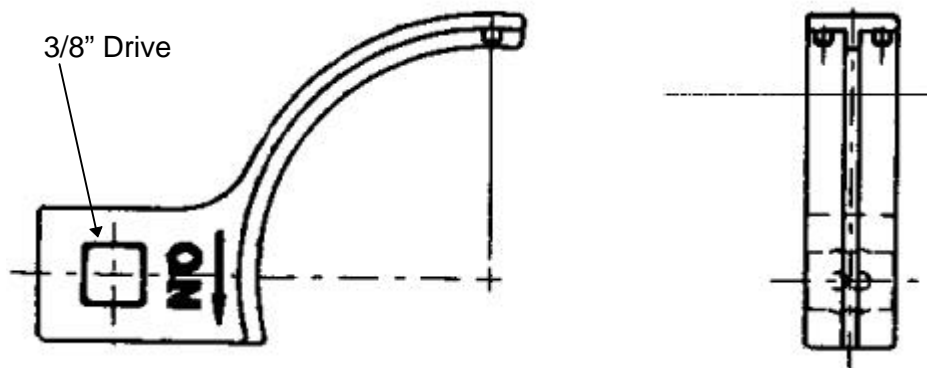

Figure 1.- Spanner Wrench for Actuator Collar.
Spanner Wrench is labeled to identify correct threaded collar removal (OFF) and installation (ON) orientation. See Figure 1.